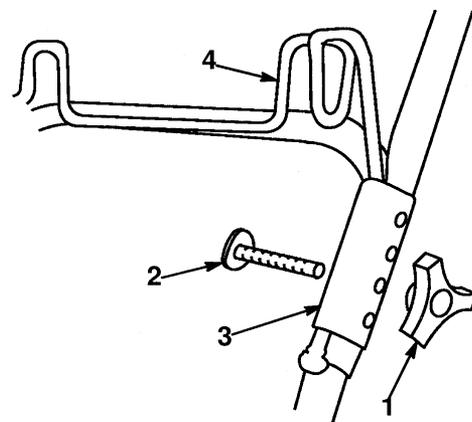

Figure 45
1. Remove bag from rear bag hanger. Remove bolt(s) and knob(s) securing hanger clamps to handle sections (Fig. 45). Hanger clamps have four adjustment holes.